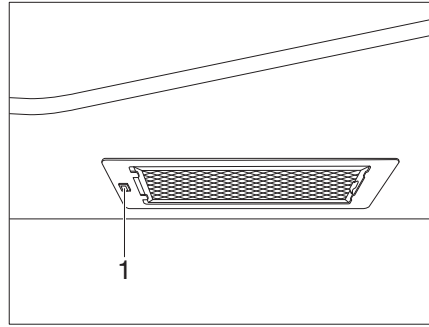

Fig. 346 Extractor hood
- Use the switch (Fig. 346,1) to turn the extractor hood on and off.